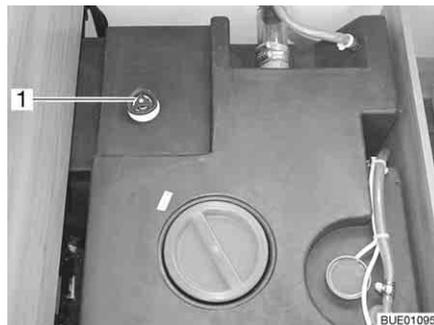

Fig. 222 Water tank with handle
- Turn the handle (Fig. 222,1) on the water tank in an anticlockwise direction as far as possible beyond the resistance to fully open the drainage opening.